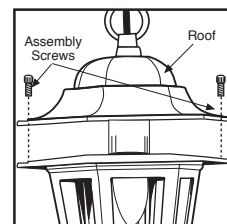

Figure 1
- For two screw assembly roofs, remove assembly screws or screw caps on roof (or underneath roof) and insert bulb(s). Reattach roof (see figure 1).